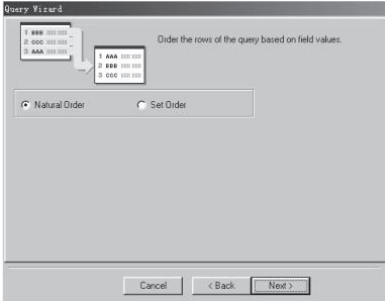

Fig. 8.9
2.6 Select the <query condition> as in Fig. 8.9. All Row means selecting all of the records and Define Search Criteria means selecting the records to be queried. Then click “Next”.